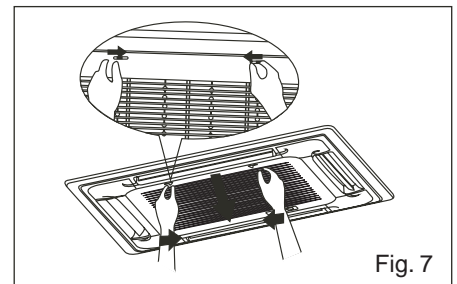

Fig. 7
- 2) Take out each filter by pulling it downwards, as it shown in Fig. 7.